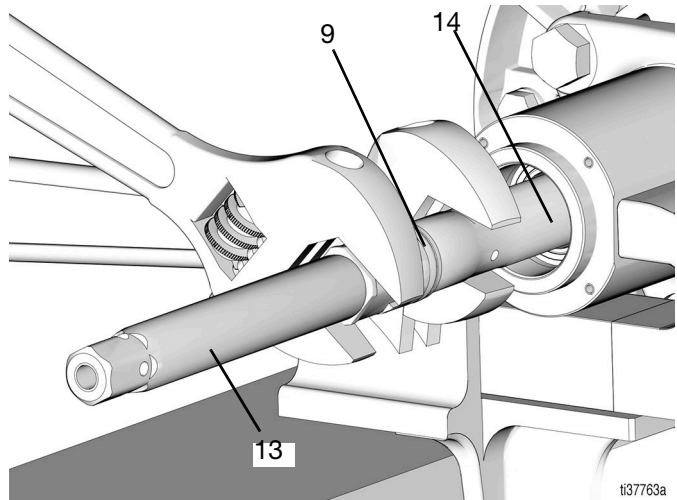

FIG. 12
14. Position a wrench on the displacement rod (14) flats and position another wrench on the fluid piston (9) flats. Loosen and remove the fluid piston (9) (FIG. 12).